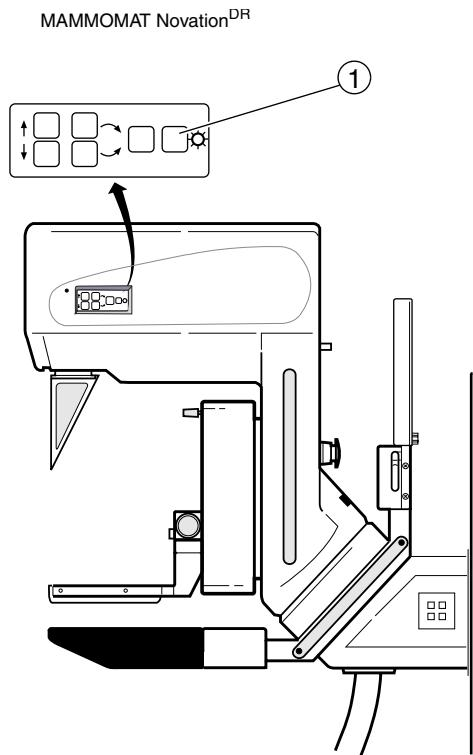
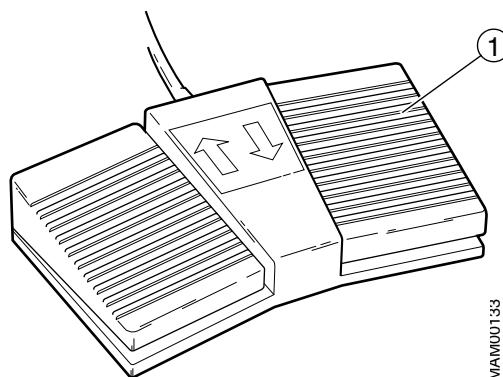

Fig. 1 Field light switch
Fig. 2 Foot switch
1. Switch on the field light by pressing the switch (1/Fig. 1) or by pressing the compression foot switch (1/Fig. 2).